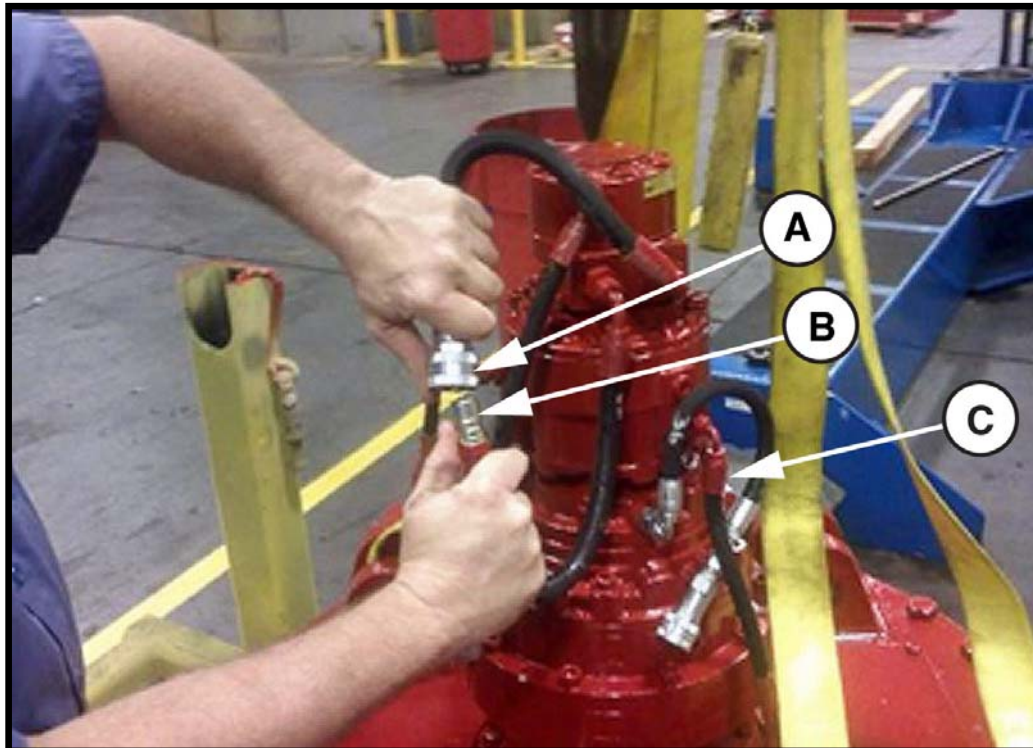

Figure 4-12. Manual Slew Hydraulic Connection
3. Connect lines A and B of the hydraulic slew motor. These lines are equipped with quick disconnect connections and should couple together. See Figure 4-12.